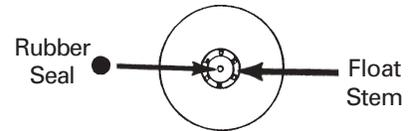

Figure 11
6. Insure rubber seal is in place in the center of the flat stem (See Figure 11). If the seal comes out, press it back in place in the recess of the stem.
7. Replace the float cap (again, be certain the rubber seal, Figure 11, is in place).